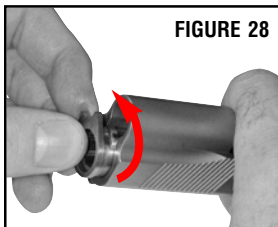

FIGURE 28
- Rotate the barrel bushing counterclockwise until the bushing lug is aligned with the opening between the barrel and recoil spring holes (Figure 28). Pull the barrel bushing out the front of the slide.